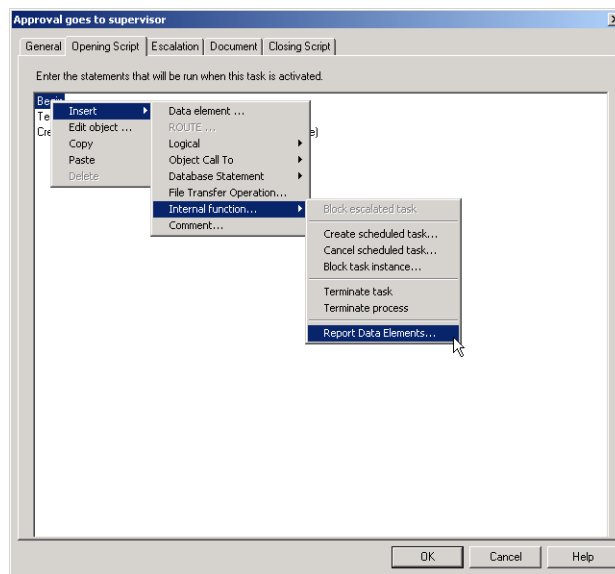

Figure 31-21. Opening Script tab with Report Data Elements function selected.
- 1 To report data elements, click on the **Opening** or **Closing Script** tab, right-click on a statement, select the **Insert** drop-down menu, select the **Internal Functions** drop-down menu, then select **Report Data Elements** (see Figure 31-21, below). The Report Data Elements dialog appears.